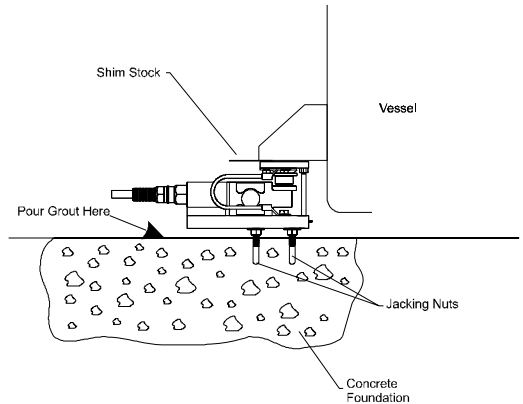

FIG. 21: LEVELING WITH SHIM STOCK
- Step 5. To adjust the level of the top plate use shim stock between the top plate and the support bracket. (See Fig. 21)